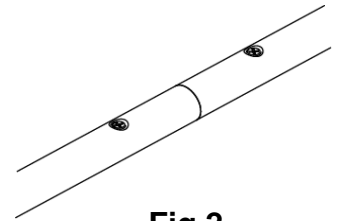

Fig.2
2. Assemble the second rod onto the straight joint making sure that the tube ends are pushed tightly together, align the hole with the grub screw and again clamp tightly in position (see Fig. 2).